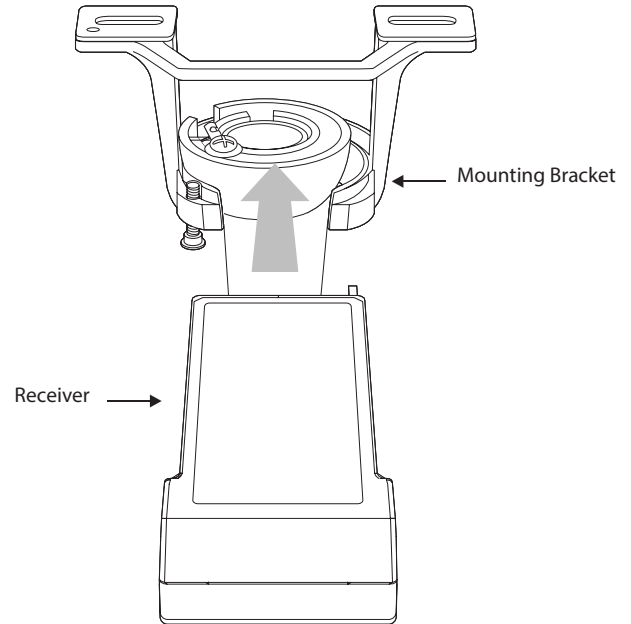

FIG.11
1. Insert the receiver into the mounting bracket with the flat side of the receiver facing the ceiling (**FIG.11**).